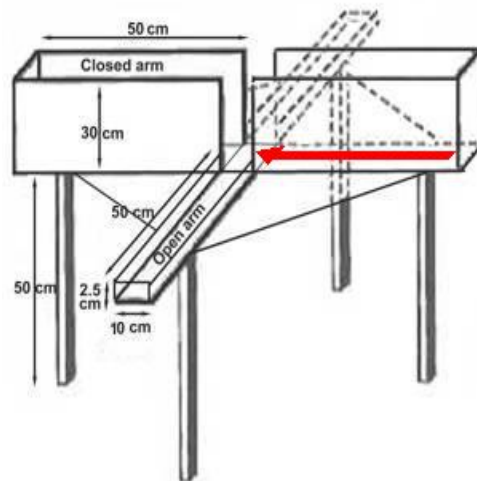

Figure 1. Diagram of the elevated plus-maze (EPM) model. Adapted from Wahlsten et. al. (2007).
1. You should **evolve** a robot controller using **evolutionary robotics** techniques. The controller should be modeled as an **Artificial Neural Network** (ANN) to control a single robot on an elevated plus-maze (EPM) arena depicted on Figure 1. For the **task**, the robot should move in the elevated plus-maze and mimic as close as possible the behaviour of the rat that is shown on the Video1 (@VISION). Basically, the robot should avoid obstacles while moving around in the maze and explore it as quickly as possible. **You should have in mind that the behavior of the rat in the EPM is a result of the approach-avoidance conflict. Therefore your robot will have to deal with 2 conflicting behaviours: exploratory behavior versus fear.** Marks are awarded for creativity and performance as well.
2. You should build your own arena that must be similar to the rat's arena on Figure 1.
4. You should design your own Artificial Neural Network (ANN) topology. But it should be a recurrent artificial network model, which could receive inputs for the sensors readings (infrared (IR) sensors, floor sensors and/or camera) and have 2 output neurons that will provide speed values for the left wheel and right wheel, respectively